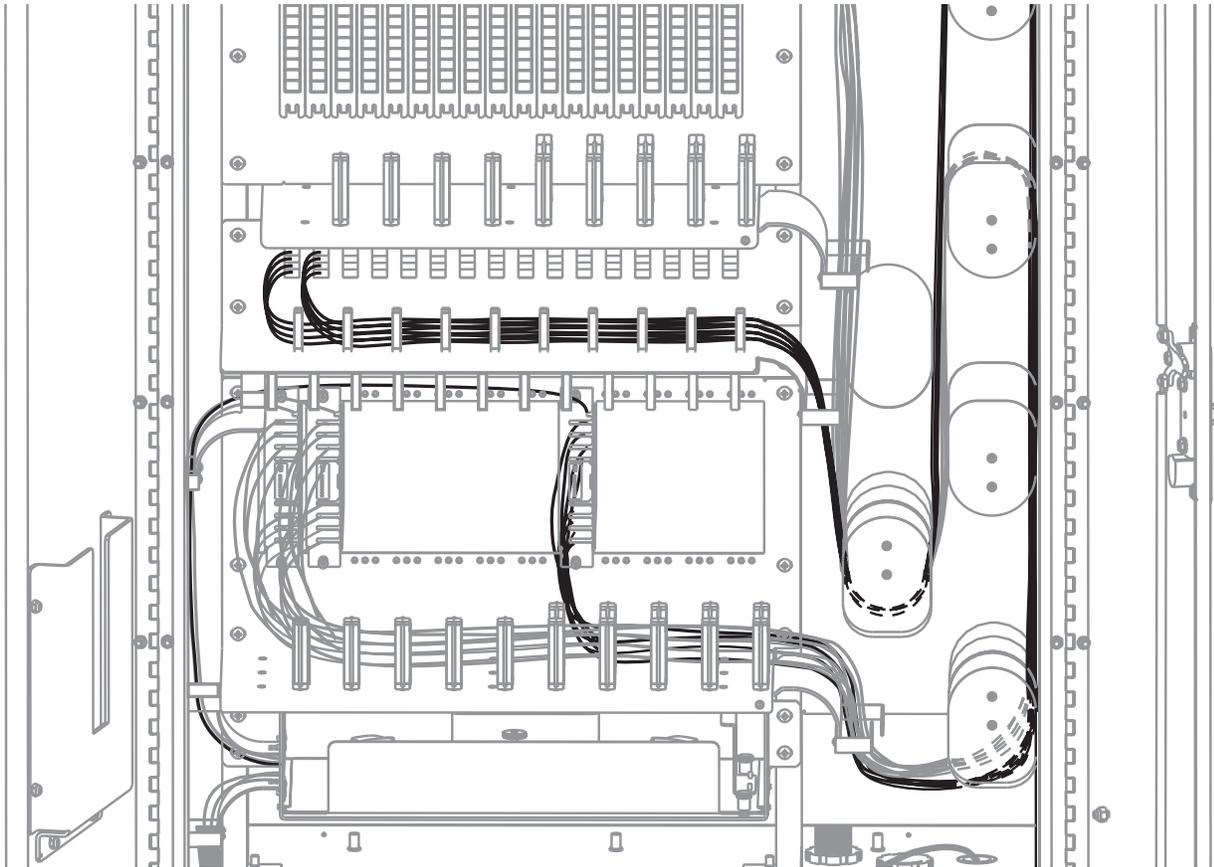

Figure 15 — Route and Store Coupler Output Fiber for Termination Later
- Step 1** If a coupler output fiber is not to be connected at this time, route the output fibers from the first nine coupler modules, beginning at the left of the coupler module storage field, through the routing clips at the front edge of the shelf. Route the output fibers from the last nine coupler modules through the routing clips at the rear of the shelf (Figure 15).